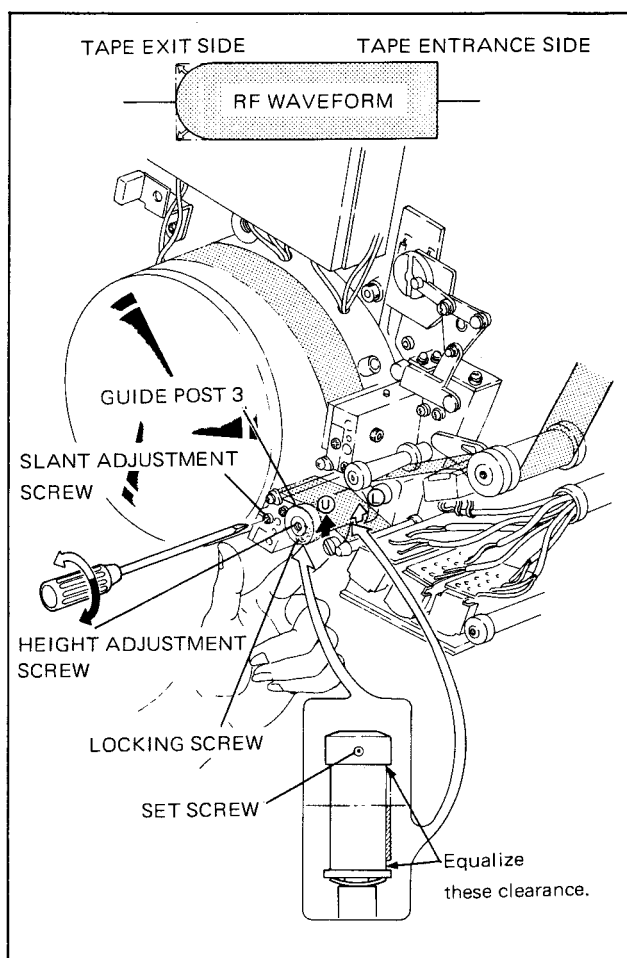

Fig. 10-16. Height Adjustment of Guide Post 3 and Slant Adjustment of Exit Slant Guide
22. Lightly push the \textcircled{U} or \textcircled{L} side of the tape shown in Fig. 10-16 and find out the side whose RF waveform on the tape exit side becomes flat.